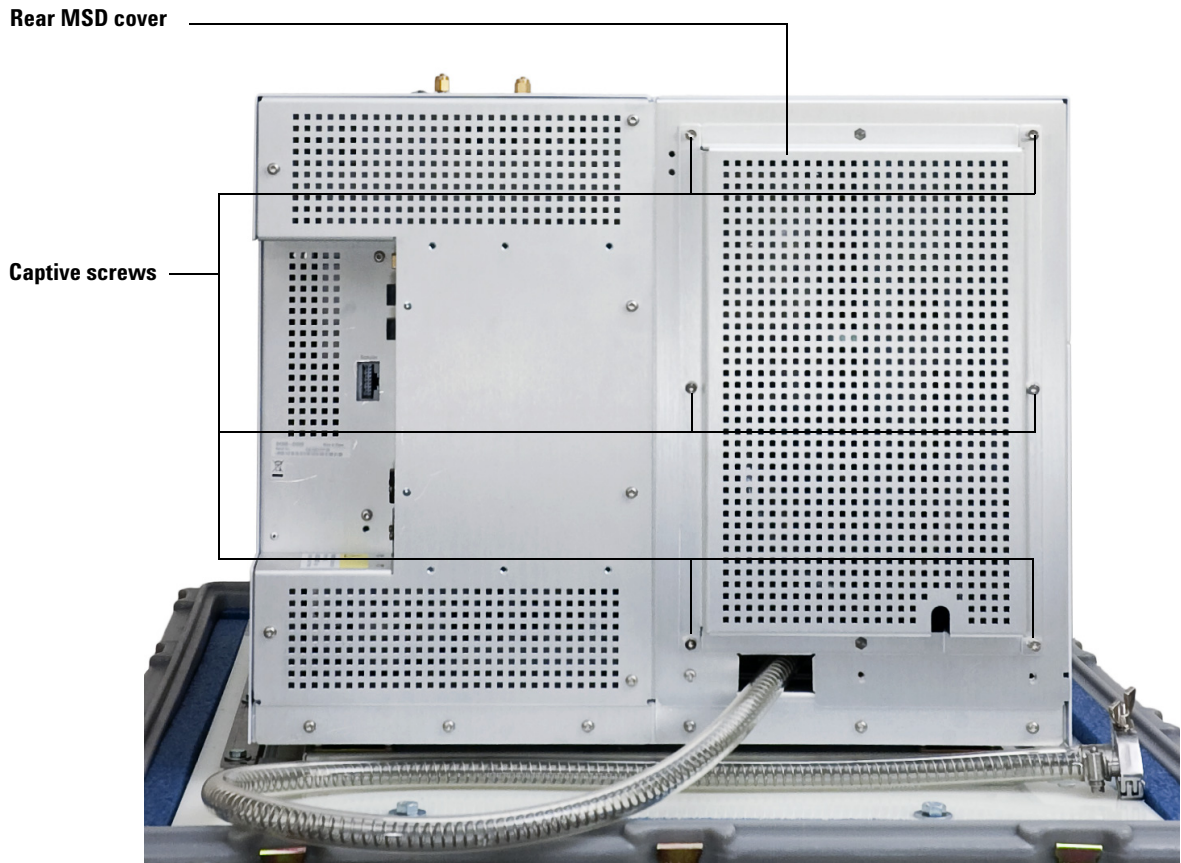

Figure 8 Removing MSD rear cover
- 3 Pull the cover forward and off the MSD. See Figure 8.
- 9 Replace the rear MSD cover. See Figure 8.